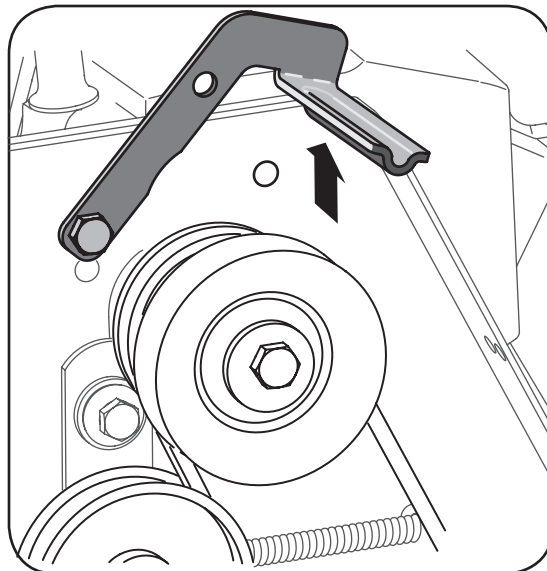

Figure 6-7
- b. Push the belt keeper and bracket up off the engine pulley. See Figure 6-7.